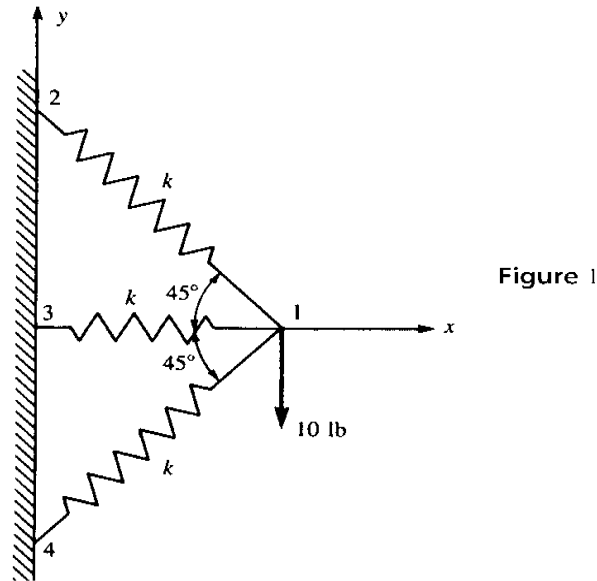

Figure 1
- b) Figure 1 shows a system of three springs fastened at a wall. The three springs constitute finite elements of the assembly system.